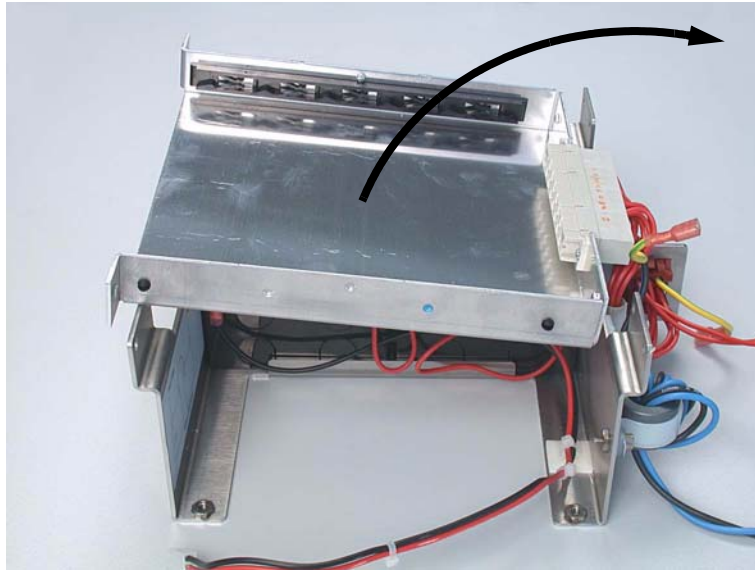

Figure 11-22. The mounting plate
9. Swing the power supply board mounting plate aside. (Figure 11-22.)